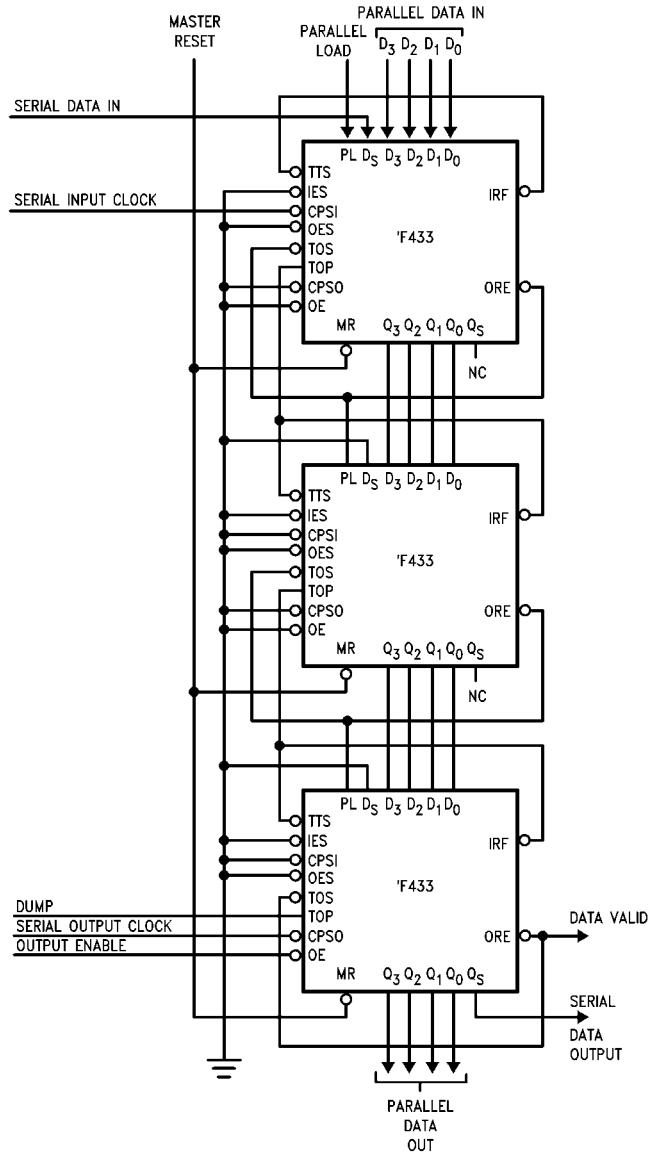

FIGURE 4. A Vertical Expansion Scheme
**Vertical Expansion**—The 74F433 may be vertically expanded, without external components, to store more words. The interconnections necessary to form a 190-word by 4-bit FIFO are shown in Figure 4. Using the same technique, any FIFO of  $(63n+1)$ -words by 4-bits can be configured, where  $n$  is the number of devices. Note that expansion does not sacrifice any of the 74F433 flexibility for serial/parallel input and output.